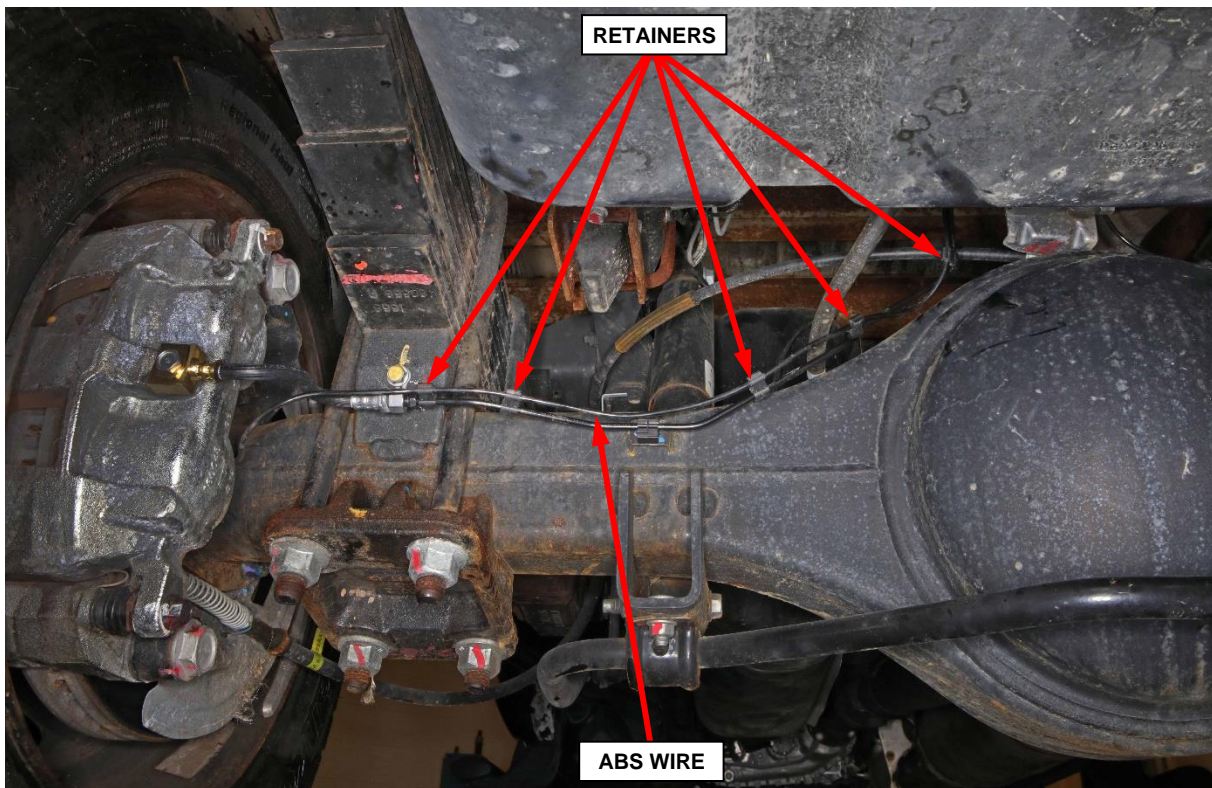

Figure 2 – ABS Wire
3. If equipped; release the Antilock Brake System (ABS) wire retainers from the rear brake fluid tube (Figure 2).
6. If equipped; attach the ABS wire retainers to the rear brake fluid tube (Figure 2).